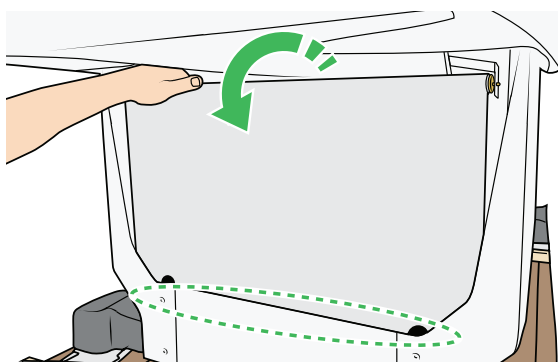

Figure 6
6. **Secure the curtain:** Roll down the curtain to give it some slack. Hold the curtain and unhook the rod, behind the inner cover. See Figure 6.